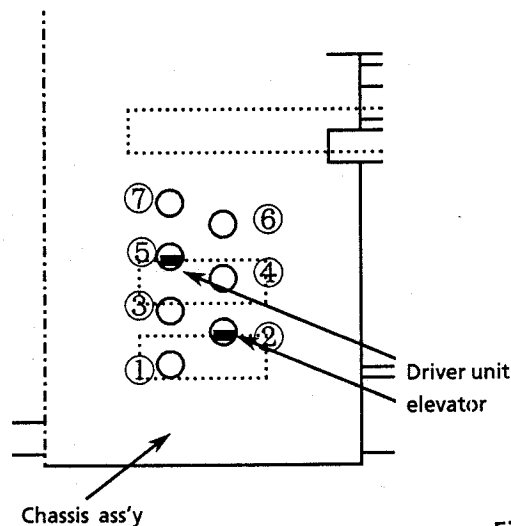
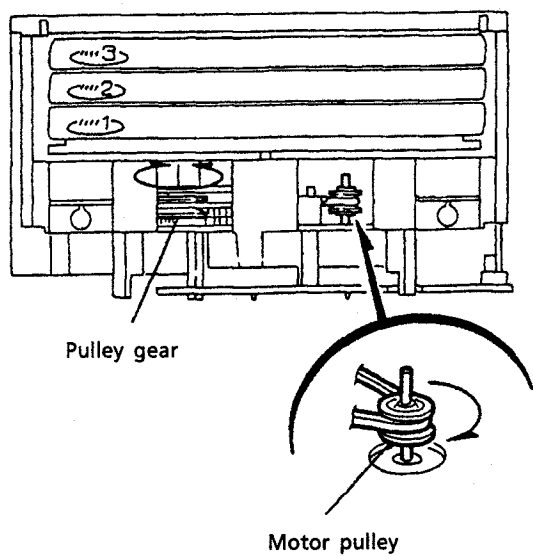

Fig. 25
Fig. 26
- [NOTE] Set the elevator in correct position (Fig. 25) by rotating the pulley gear with finger if it is not positioned correctly (Fig. 26).
12. Rotate the motor pulley clockwise with finger until the lifter unit's stopper is lowered from ⑩ hole located on the CD tray ass'y. (See Fig. 26.)